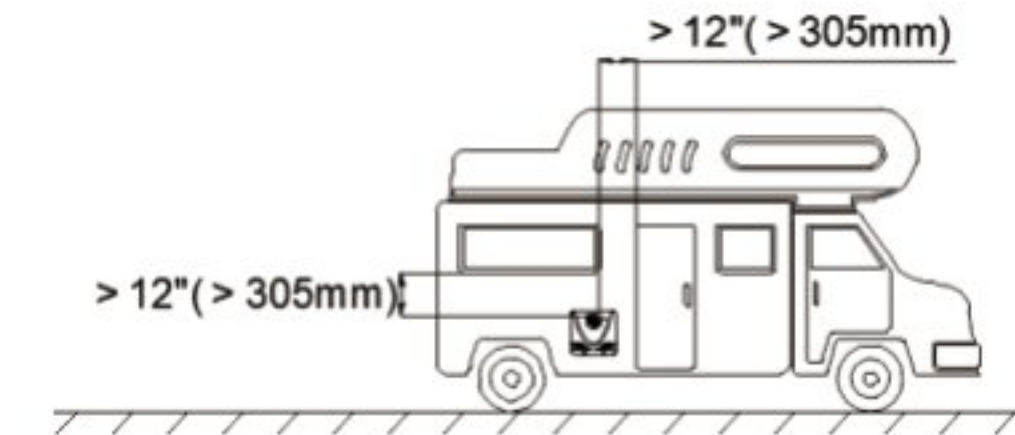

Figure 11
- DO NOT install this appliance at the position where the appliance venting outlet is less than 12" (305mm) from the door and window - refer to Figure 11.